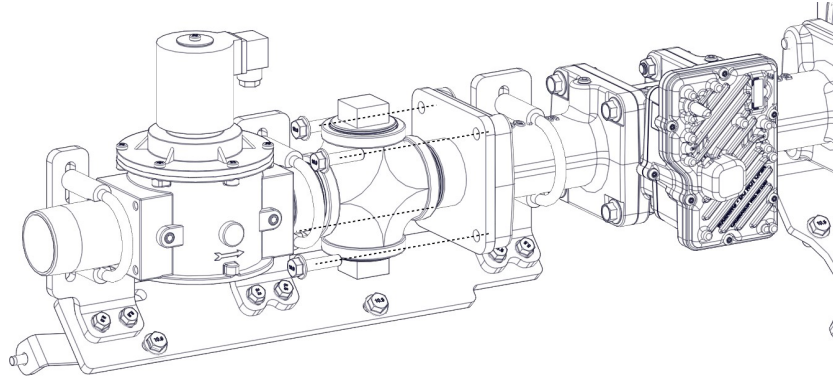

Figure 33.
8. Insert and torque down all four bolts (Figure 33) to 30 ft/lbs.